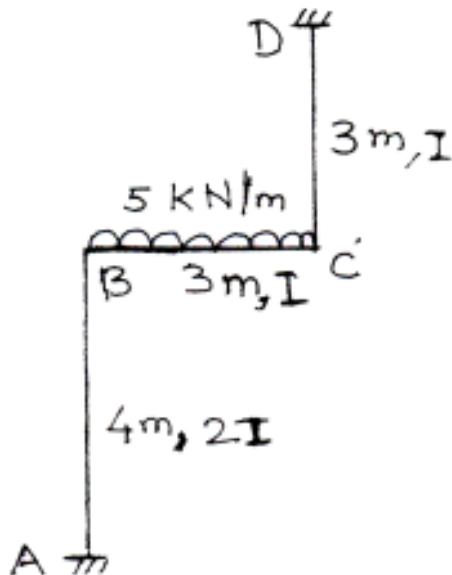

Fig. 1
1. Determine the support moment for the rigid jointed plane frame loaded and supported as shown in **Fig. 1**, using **Moment Distribution Method**. Draw BMD and SFD. Take I of members as shown.
3. a) Determine the support moment for the rigid jointed plane frame loaded and supported shown in **Fig. 1**. Use **Stiffness Matrix Method**. Draw BMD and SFD. Take I of members as shown. 12